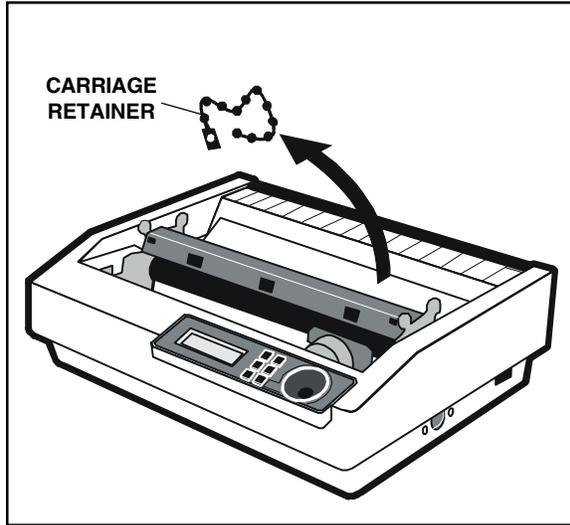

Figure 1-2. Removing the Carriage Retainer
2. Unsnap and remove the plastic, beaded retainer that secures the carriage to the printer chassis, as shown in figure 1-2.